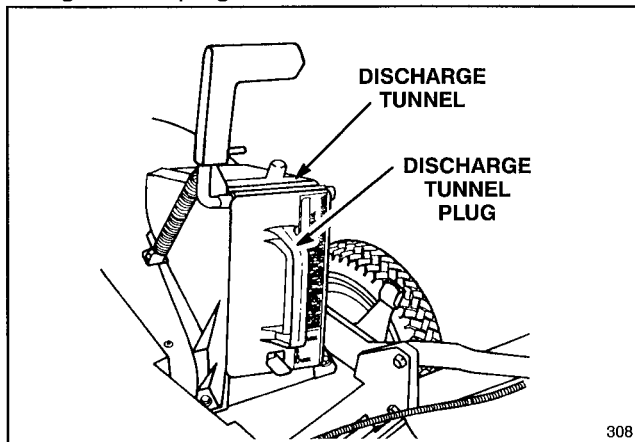

Figure 31
1. Rear Bagging Kit (Model 59174 for self-propelled models, Model 59179 for hand push models)—Install discharge tunnel and rear mounting grass bag to convert Recycler® II Super Pro® mower to a rear bagging mower (Fig. 31). Includes discharge tunnel plug.